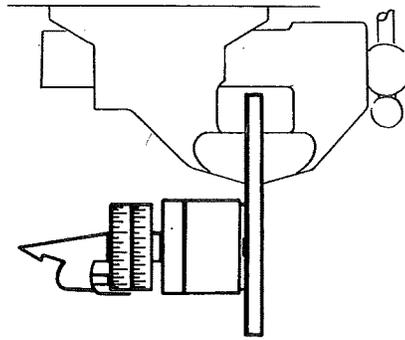

FIG.2
2. Attach magnetic gage to one side of ground stock (see fig. 2). Be sure all surfaces are clean.
2. Loosen hex nut and cone point allen set screw on left side of gage (see fig. 2) and remove old level assembly.